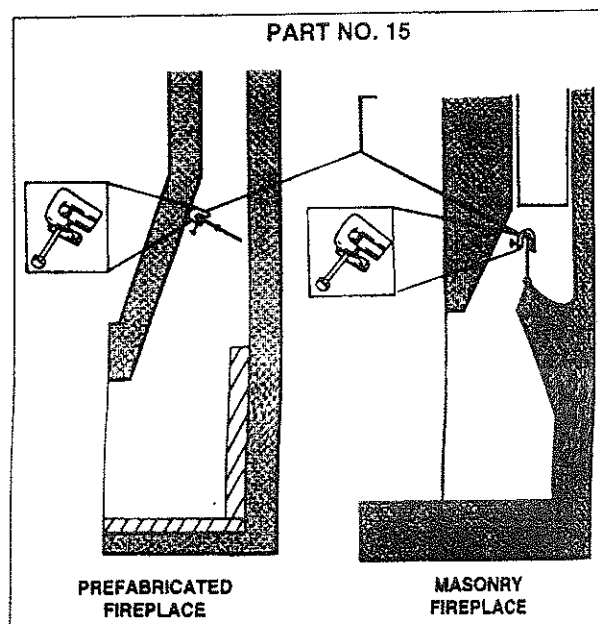

Figure 2. Damper Stop Clamp.
- B. Open fireplace damper fully and install Damper Stop Clamp with 1/4x2" set screw (Part #15). This clamp is designed to prevent accidental closure of the damper while in use. (See Figure 2.) Should the Damper Stop Clamp supplied not fit, a permanent damper stop clamp must be installed that will keep the damper open at a distance of not less than 1 1/2".